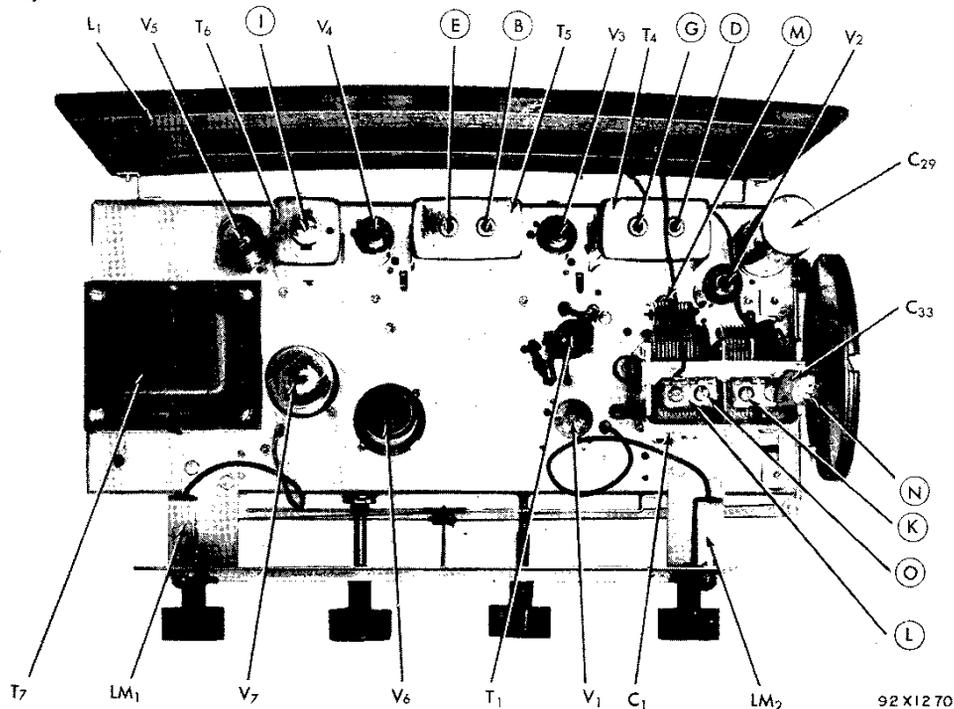

Fig. 5. Top view, alignment, adjustments and component location.
**TUBE REPLACEMENT** - The tube types and their relative position in the receiver are shown in the illustration, Fig. 5. When installing a replacement tube, insert the center guide pin into the center hole of the tube socket; rotate the tube until the key on the guide pin drops into the notch in the socket hole; and push down until the base of the tube rests firmly on the socket. A slightly different technique must be used on the miniature tubes. They have seven small pins which have to be lined up with the socket holes before pushing the tube into the socket. Handle all tubes with care as they are considered fragile and do not tolerate much mechanical abuse.
**DIAL LAMP REPLACEMENT** - Refer to Fig. 5. for the location of the two dial lamps. To replace a defective dial lamp, unclip the dial lamp socket by compressing the side springs. The socket and defective lamp may then be brought out into the open for service. Replace defective lamps with 6-8 V. Mazda #44 (Blue bead) or equivalent.